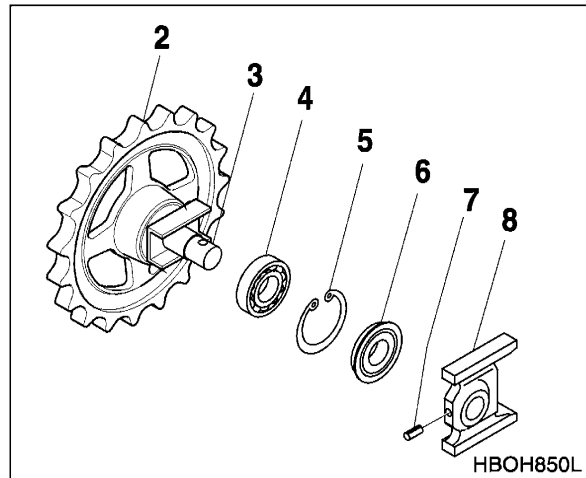

Figure 26
2. Remove spring pin(7, Figure 26) from guide(8).
3. Remove guide(8, Figure 26) from shaft(3).
4. Remove oil seal(6, Figure 26) using a screw driver.
5. Remove snap ring(5, Figure 26), bearing(4), and shaft(3).
2. Insert shaft (3, Figure 26) into idler gear (2).
3. Assemble bearing (4, Figure 26) onto shaft (3) and install snap ring (5)
4. Install new grease seal (6, Figure 26).
5. Install Shaft guide (8, Figure 26) and spring pin (7).